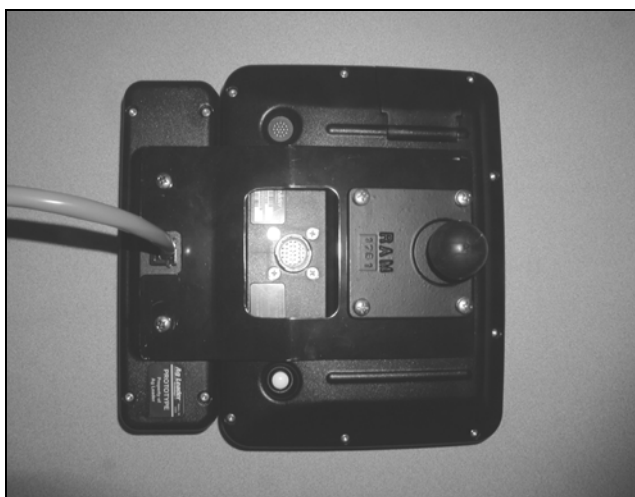

Figure 7. Switch console installed (optional RAM mount base also shown)
1. See Figure 7. Place display front side down on a stable surface. Align (4) mounting holes of metal switch console bracket with (4) threaded inserts of display. Place display bracket on top of switch console bracket so that mounting holes are aligned with threaded inserts.
2. Install a 6mm pan head screw with lock washer into each of (4) threaded inserts and tighten firmly.
3. Position switch console so that threaded inserts are aligned with mounting holes of metal bracket as shown in Figure 7.
4. Install a 6mm pan head screw with lock washer into each of (2) threaded inserts and tighten firmly.